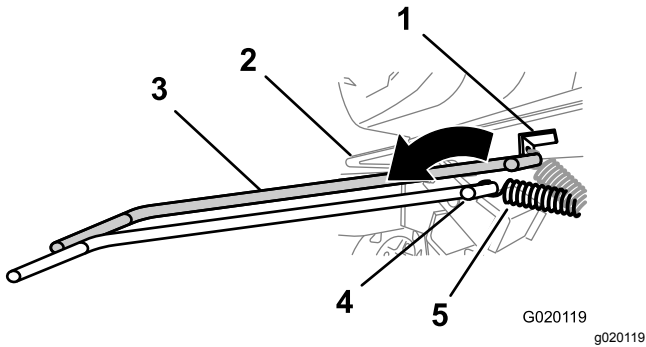

Figure 52
- Using a spring-removal tool (Toro Part No. 92-5771), remove the spring from the anchor bracket on the engine deck (Figure 52).
7. Using a spring-removal tool (Toro Part No. 92-5771), install the tension spring to the anchor bracket on the engine deck (Figure 52).